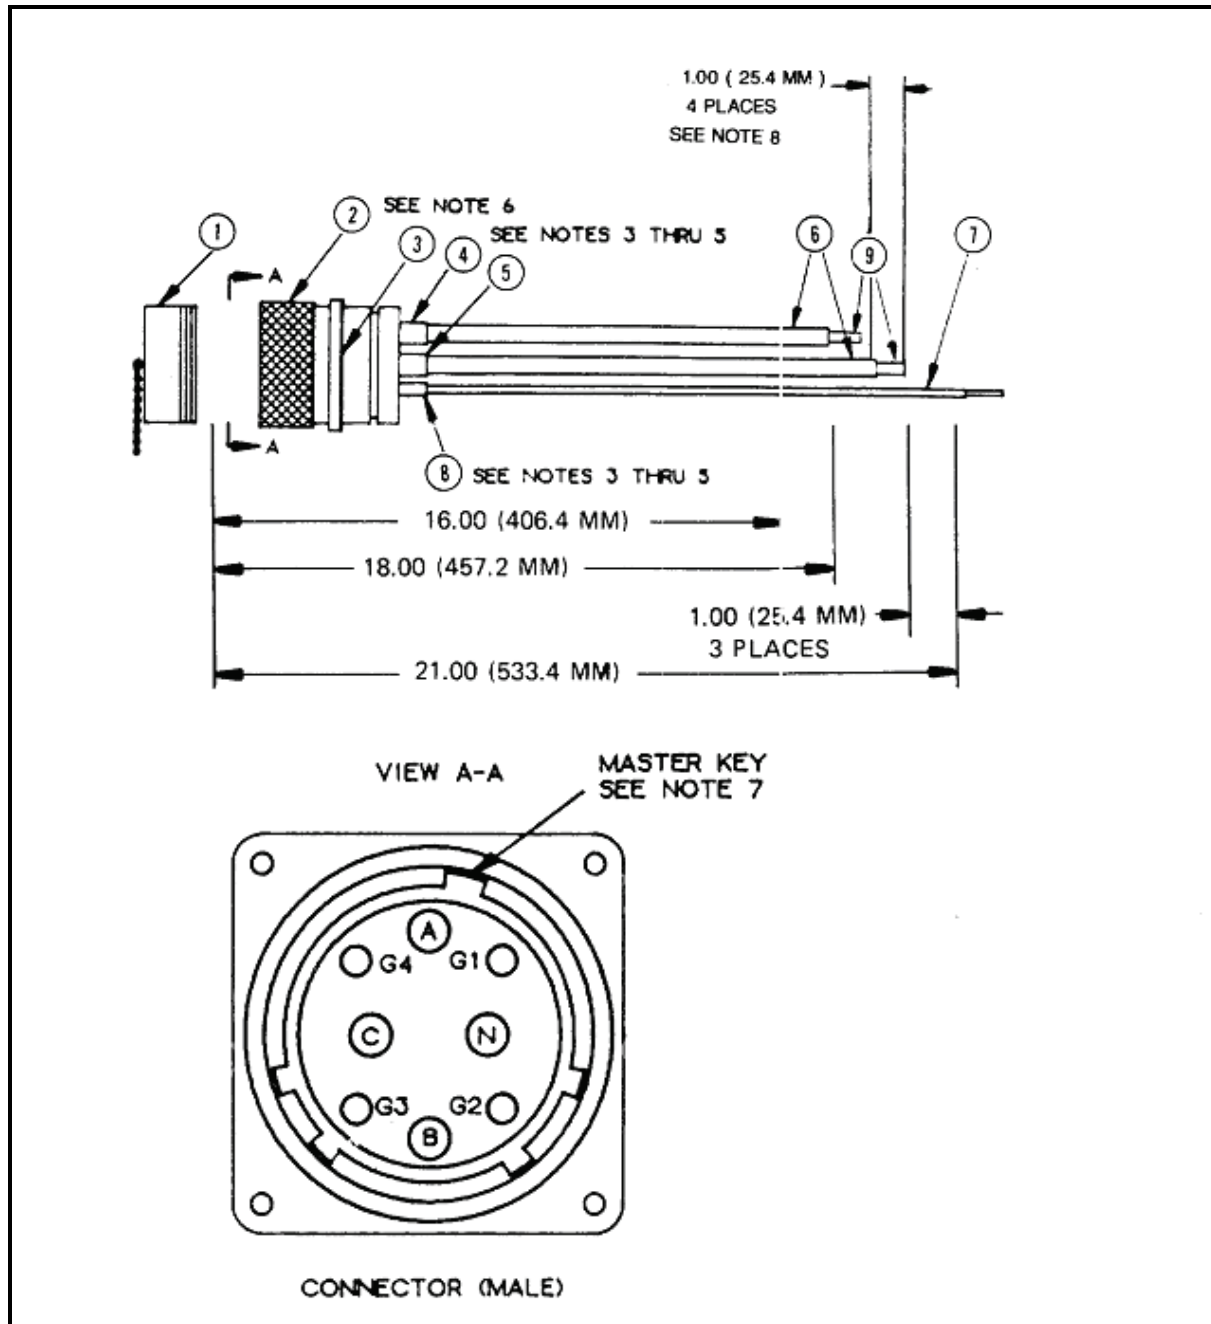

Figure F-26. M200 A/P (PDISE), 200-Amp, Internal Input Connector Assembly, (J1)
F-26 M200 A/P (PDISE), 200-Amp, Internal Input Connector Assembly, (J1)**Component Legend for Figure F-26**
- c. Electrical connector (Figure F-26, Item 2) is furnished with the following: